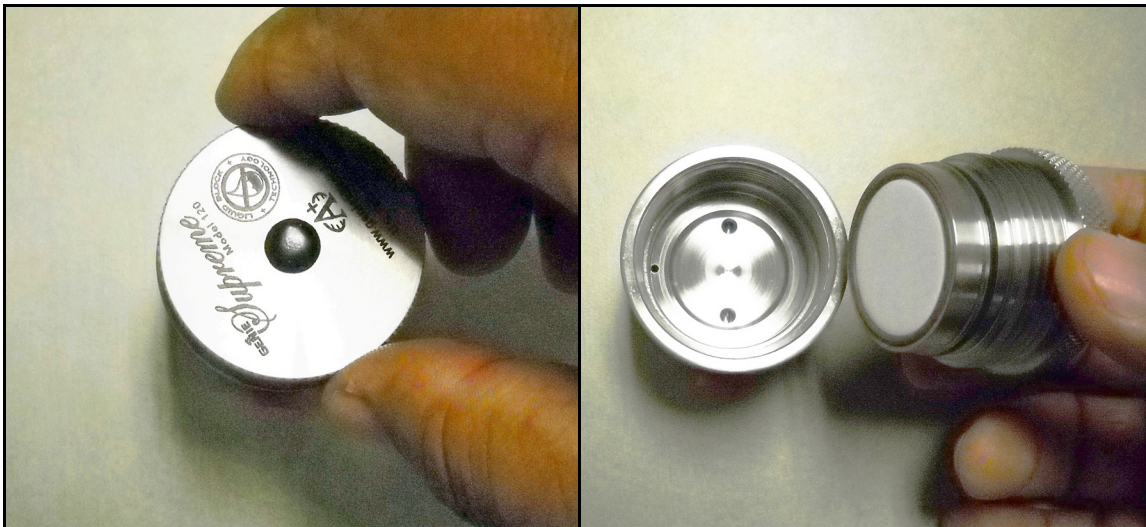

Figure 99: Removing the Filter Cap
2. Turn the filter cap counter-clockwise (see *Figure 99* below). You might need to use a channel-lock wrench to assist in loosening the cap.